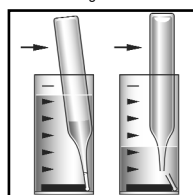

Figure 3
3. Place the CHEMet ampoule, tip first, into the sample cup. Snap the tip. The ampoule will fill leaving a bubble for mixing (fig. 3).